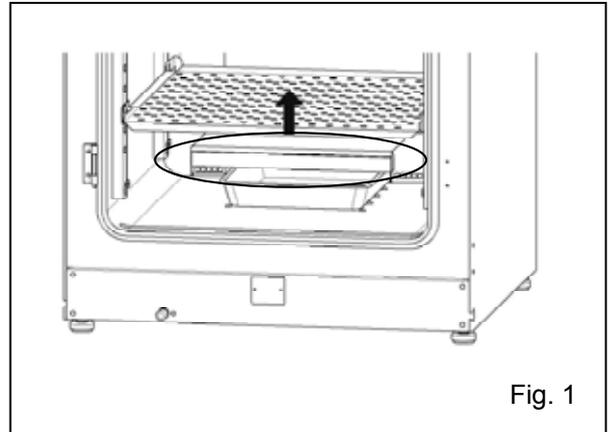

Fig. 1
2. Open the outer and inner doors and pull out the all trays. (See Fig. 1.)
1. Lift the humidifying pan cover. (See Fig. 1.)
3. Pour one bottle of H₂O₂ Decontamination Reagent (MCO-H2O2) into the H₂O₂ Generator. Set the two pins on the H₂O₂ Generator in the 2 holes on the lower left side of the duct (Fig. 1).
4. Connect the H₂O₂ Generator and connector on the bottom right of the far side of the chamber with the enclosed cable. Be sure to keep the connector cap (Fig. 1).